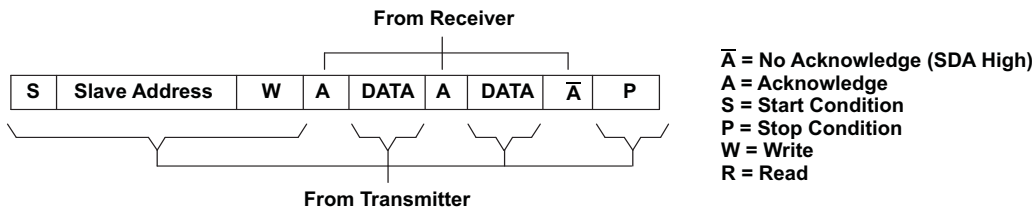
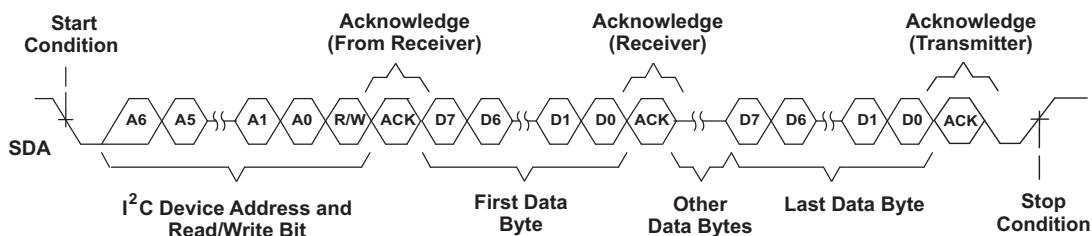
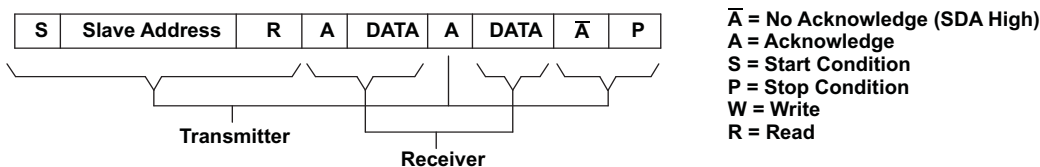
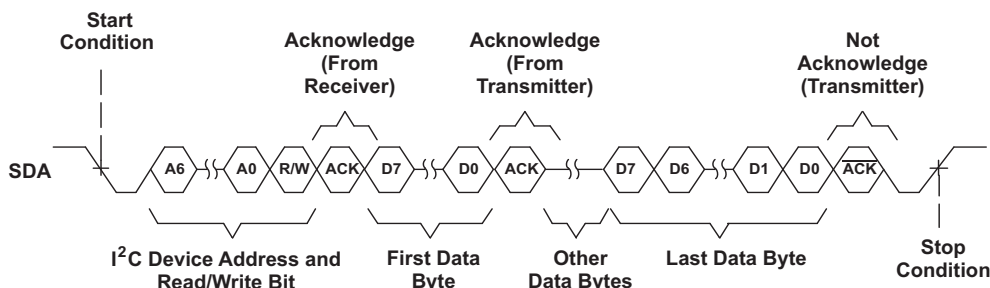

Figure 9. I²C Write Cycle
Figure 10. Multiple Byte Write Transfer
Figure 11. I²C Read Cycle
Figure 12. Multiple Byte Read Transfer
During a write cycle, the transmitting device must not drive the SDA signal line during the acknowledge cycle, so that the receiving device may drive the SDA signal low. After each byte transfer following the address byte, the receiving device pulls the SDA line low for one SCL clock cycle. A stop condition is initiated by the transmitting device after the last byte is transferred. Figure 9 and Figure 10 show an example of a write cycle. Note that the THS7347 does not allow multiple write transfers to occur. See the example, **Writing to the THS7347**, in **WRITE AND READ EXAMPLES** for more information.
During a read cycle, the slave receiver acknowledges the initial address byte if it decodes the address as its address. Following this initial acknowledgment by the slave, the master device becomes a receiver and acknowledges data bytes sent by the slave. When the master has received all of the requested data bytes from the slave, the not acknowledge (\bar{A}) condition is initiated by the master by keeping the SDA signal high just before it asserts the stop (P) condition. This sequence terminates a read cycle, as shown in Figure 11 and Figure 12. Note that the THS7347 does not allow multiple read transfers to occur. See the example, **Reading from the THS7347**, in **WRITE AND READ EXAMPLES** for more information.
The THS7347 operates using only a single-byte transfer protocol similar to that illustrated in Figure 9 and Figure 11. The internal subaddress registers and the functionality of each are given in Table 2. When writing to the device, it is required to send one byte of data to the corresponding internal subaddress. If control of all three channels is desired, then the master must cycle through all the subaddresses (channels) one at a time; see the example, Writing to the THS7347 (in WRITE AND READ EXAMPLES) for the proper procedure of writing to the THS7347.